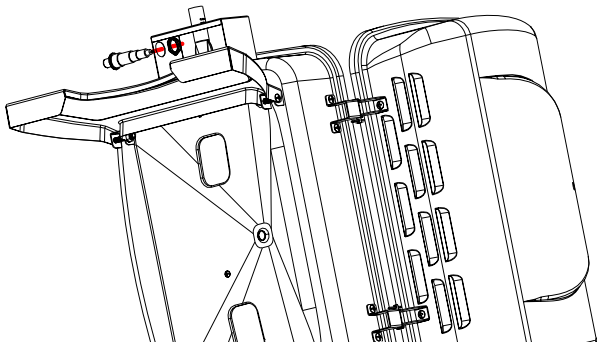

Fig. 4
*Procedure:* Remove the nut from the Igniter. Install the Igniter into the hole on the front of the Control Panel. Secure the Igniter to the Control panel with the nut as shown in Fig. 4.